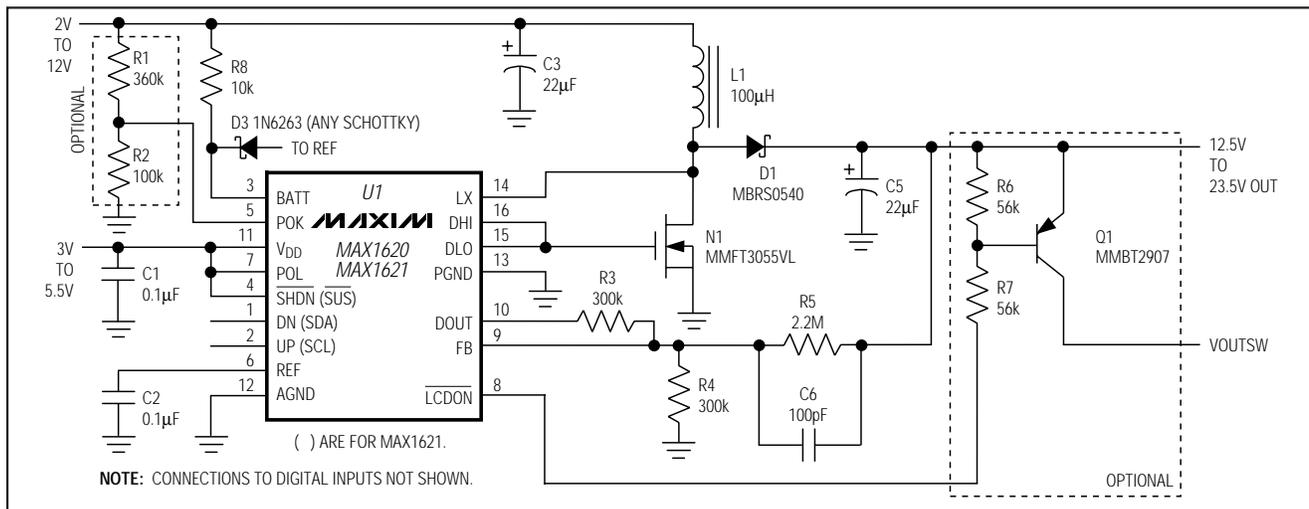

Figure 4. Typical Operating Circuit—Positive Output
To select a positive output voltage, tie the polarity pin (POL) to V_{DD} and use the typical boost topology shown in Figure 4. FB regulation voltage is 1.5V. For optimum stability, V_{OUT} should be greater than 1.1 (V_{BATT}).
To prevent uncontrolled boosting when the output is disconnected, the feedback resistors must sense the boosted voltage rather than the output of the \overline{LCDON} switch (Figure 4).
Separate voltage sources can supply the inductor (L1) and the IC (V_{DD}). This allows operation from low-voltage batteries as well as high-voltage sources because chip bias ($150\mu A$) is provided by a logic supply (3V to 5.5V) while output power is sourced directly from the battery to L1. Conversely, L1 and V_{DD} can also be supplied from one supply if it remains with V_{DD} 's operating limits (3V to 5.5V). If L1 and V_{DD} are fed from the same voltage, D3 and R8 (Figures 4, 5, 6, and 10) can be omitted, and BATT may be connected directly to V_{DD} .
The minimum output voltage is set with a resistor-divider (R4-R5, Figure 4) from V_{OUT} to AGND. The FB threshold voltage is 1.5V. Choose R4 to be 300k Ω so that the current in the divider is about 5 μA . Determine R5 as follows:
The DAC is adjustable from 0V to 1.5V in 32 steps, and 1LSB = 1.5V / 31. DAC adjustment of V_{OUT} is provided by adding R3 to the divider circuit (Figure 4). Be sure that $V_{OUT,MAX}$ does not exceed the LCD panel rating.
- 3) As an input sensing output cutoff for positive outputs. Connect POK to a voltage divider to sense the input voltage. The output is switched on only when the input reaches the set level (Figure 4).
To control the open-drain output \overline{LCDON} by sensing the input voltage, connect a resistor-divider (R1-R2, Figure 4) from V_{BATT} to POK. Choose R2 = 100k. For example, if the minimum battery voltage is 5.3V, determine R1 as follows: